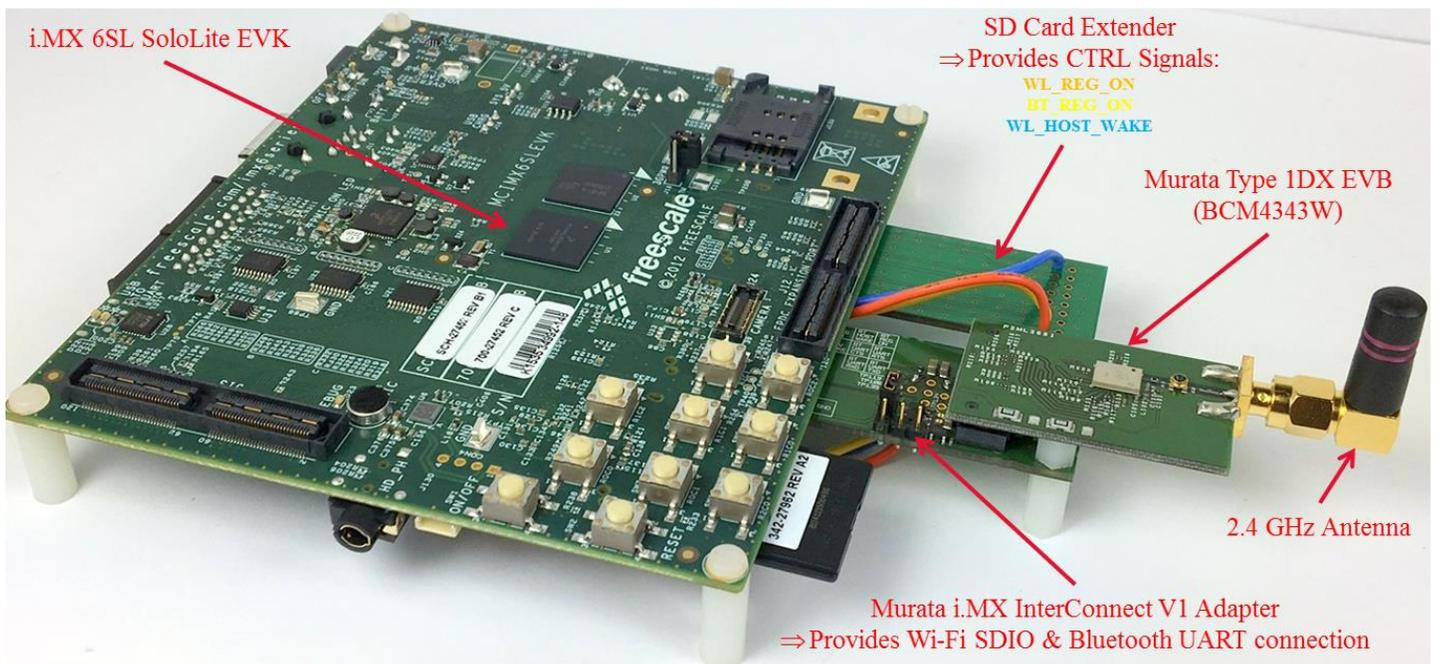

Figure 4: i.MX 6SoloLite EVK with V1 Adapter and Type 1DX EVB
Referring to **Table 3**, V1 Adapter is the only solution for this platform. Murata Wi-Fi/BT EVB is oriented right-side up, and it provides both Wi-Fi and BT functionality via SD1 slot with control signals connected from SD3 slot using SD Card Extender: see **Figure 4** below.
- [3] Insert V1 Adapter board into SD1 slot and SD Card Extender into SD3 slot. Note the orientation as shown in **Figure 4**.